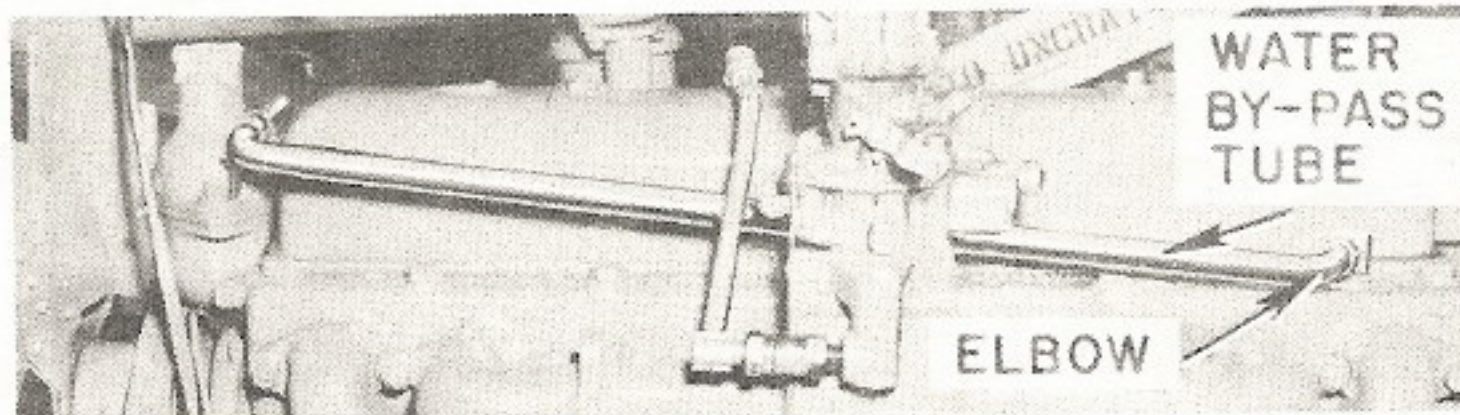

Fig. 4 - The by-pass tube running from elbow to elbow.
Install the elbow (2) in top of the tee. Figure 4 shows the location of the hole at the rear of the cylinder head that had been previously tapped for the old steam-relief tube. Install elbow (Part No. 2137281) in this hole.
Connect the by-pass tube in Figure 4 between these two elbows: The one at front and the one at the rear of the engine.